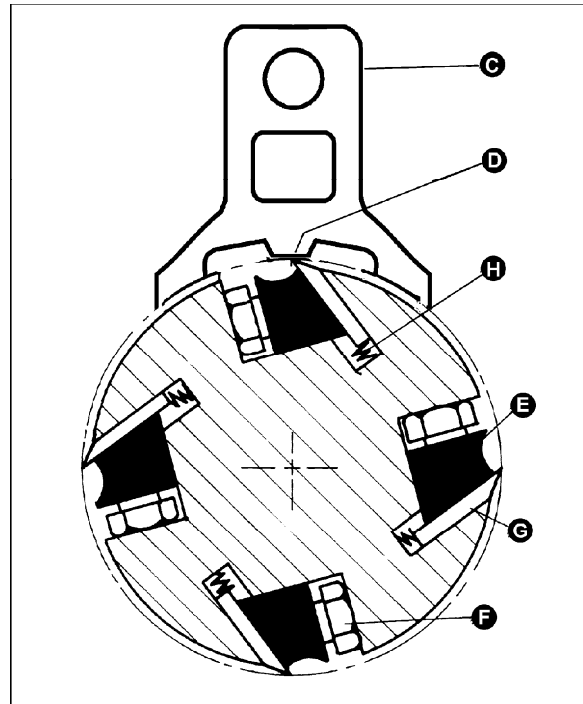
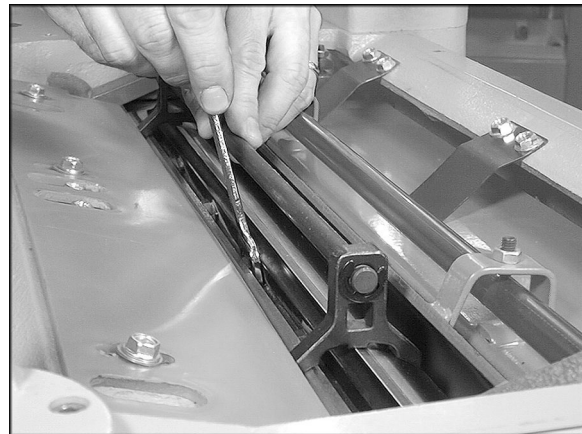

Figure 18 – Model 209 only
Figure 19 – Model 209 only
3. To check and adjust knives, use the provided knife setting gauge and check all four knives. Knives should just contact the bottom of the center protrusion (D, Figure 18) of the knife gauge. Make sure the feet of the knife gauge sit solidly upon the cutterhead, and that its shaft is parallel to the cutterhead (see Figure 19).
4. If an adjustment to one or more of the knives is necessary, slightly loosen the knife gib (E, Figure 18) by turning the six screws (F, Figure 18) into the gib (i.e. clockwise, when facing the screw heads) with a 12mm hex wrench. Turn the screws just enough to relieve stress in the cutterhead without disturbing the setting of the knives. Do this for all four knives at the same time.
5. With the knife setting gauge (C, Figure 18) in place over a knife (G, Figure 18), continue to loosen the screws (F, Figure 18) until the springs (H, Figure 18) begin raising the knife. When knife comes in contact with the center protrusion of the gauge, snug the gib by lightly backing out the six screws (F, Figure 18) against the slot (i.e. counter-clockwise).
7. After all knives are set with screws just snug, back out and tighten the six screws (F, Figure 18) against the slot starting with the end screws first, then the center screws, until the knife is securely held in the cutterhead. Tighten the remaining three knives in the same manner.
3. To remove knife, loosen the gib (E, Figure 18) by turning the six gib screws clockwise. Remove gib, knife and springs.
8. Place knife setting gauge (Figure 19) over knife.
Figure 19 repeated